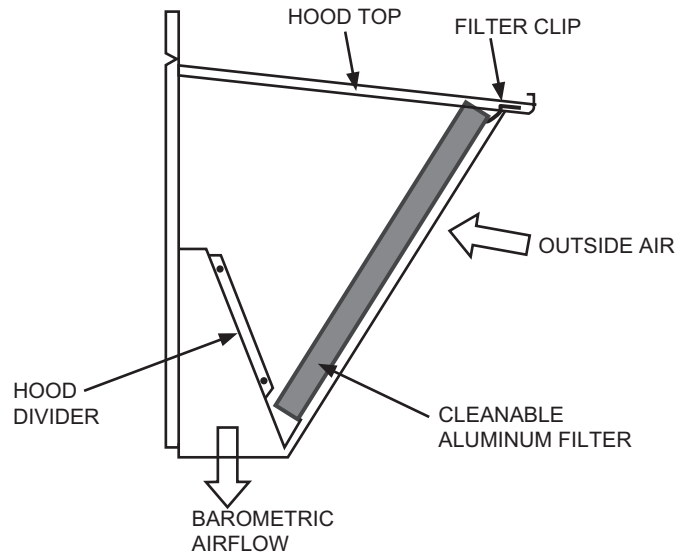

Fig. 19 — Fully Assembled Hood
23. Install aluminum filter(s) in EconoMi\$er X hood. Clips at top of hood will hold filters in place. See Fig. 19.